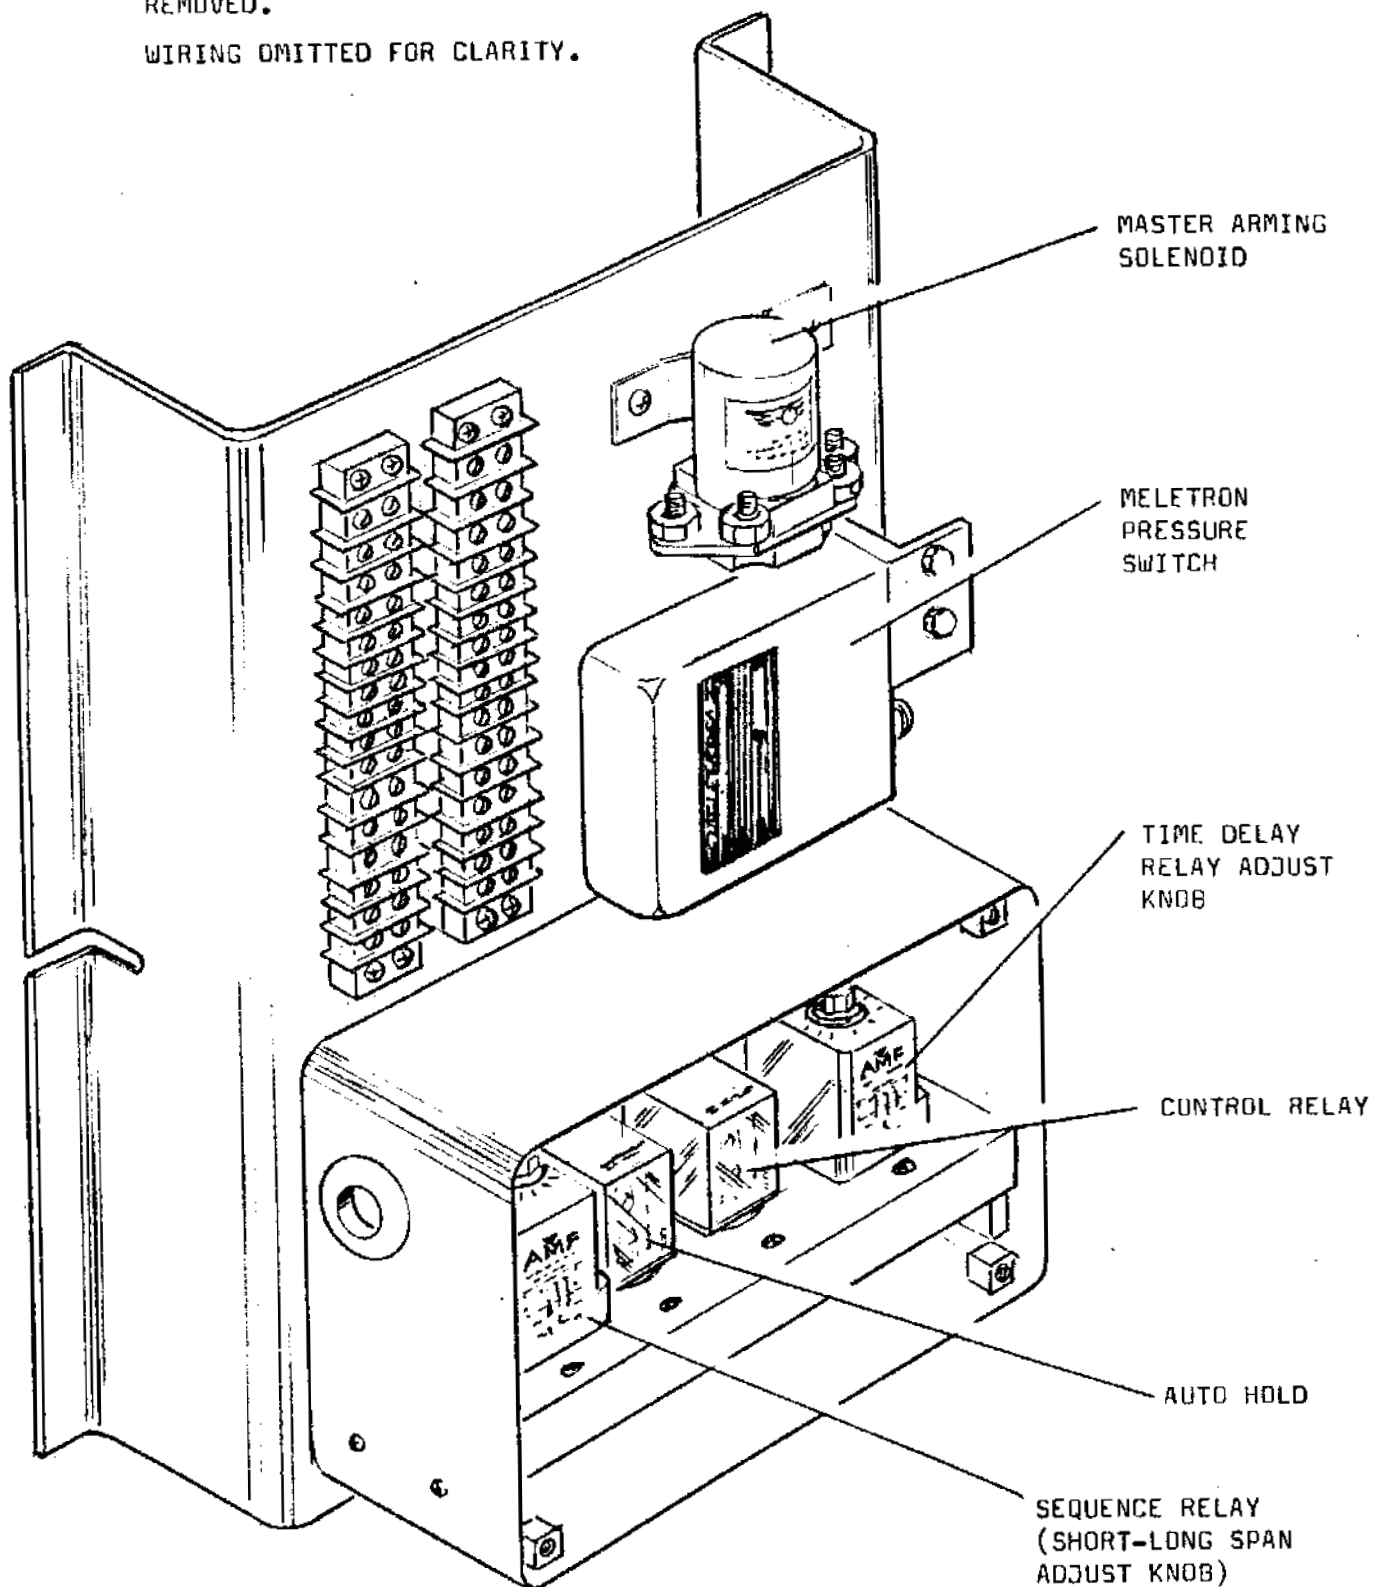

Figure 4-1. Junction box and relay panel.
- G. Check "GO" system "Meletron" pressure switch, located on junction panel. See Figure 4-1.
- D. Check Control and Auto-Hold relays located in relay box on junction panel. See Figure 4-1.
- E. Check Drop Button leads for a grounded switch; the Control relay should respond to each Drop Button action. See Figure 4-1.
- 3. If the Drop Selector is skipping a door; failing to send a signal to the valve assembly, check the sequence relay for proper setting. See Figure 4-1.
- D. Check time delay relay. See Figure 4-1.
A. The door opening timer delay relay is either faulty or out of adjustment. See Figure 4-1.